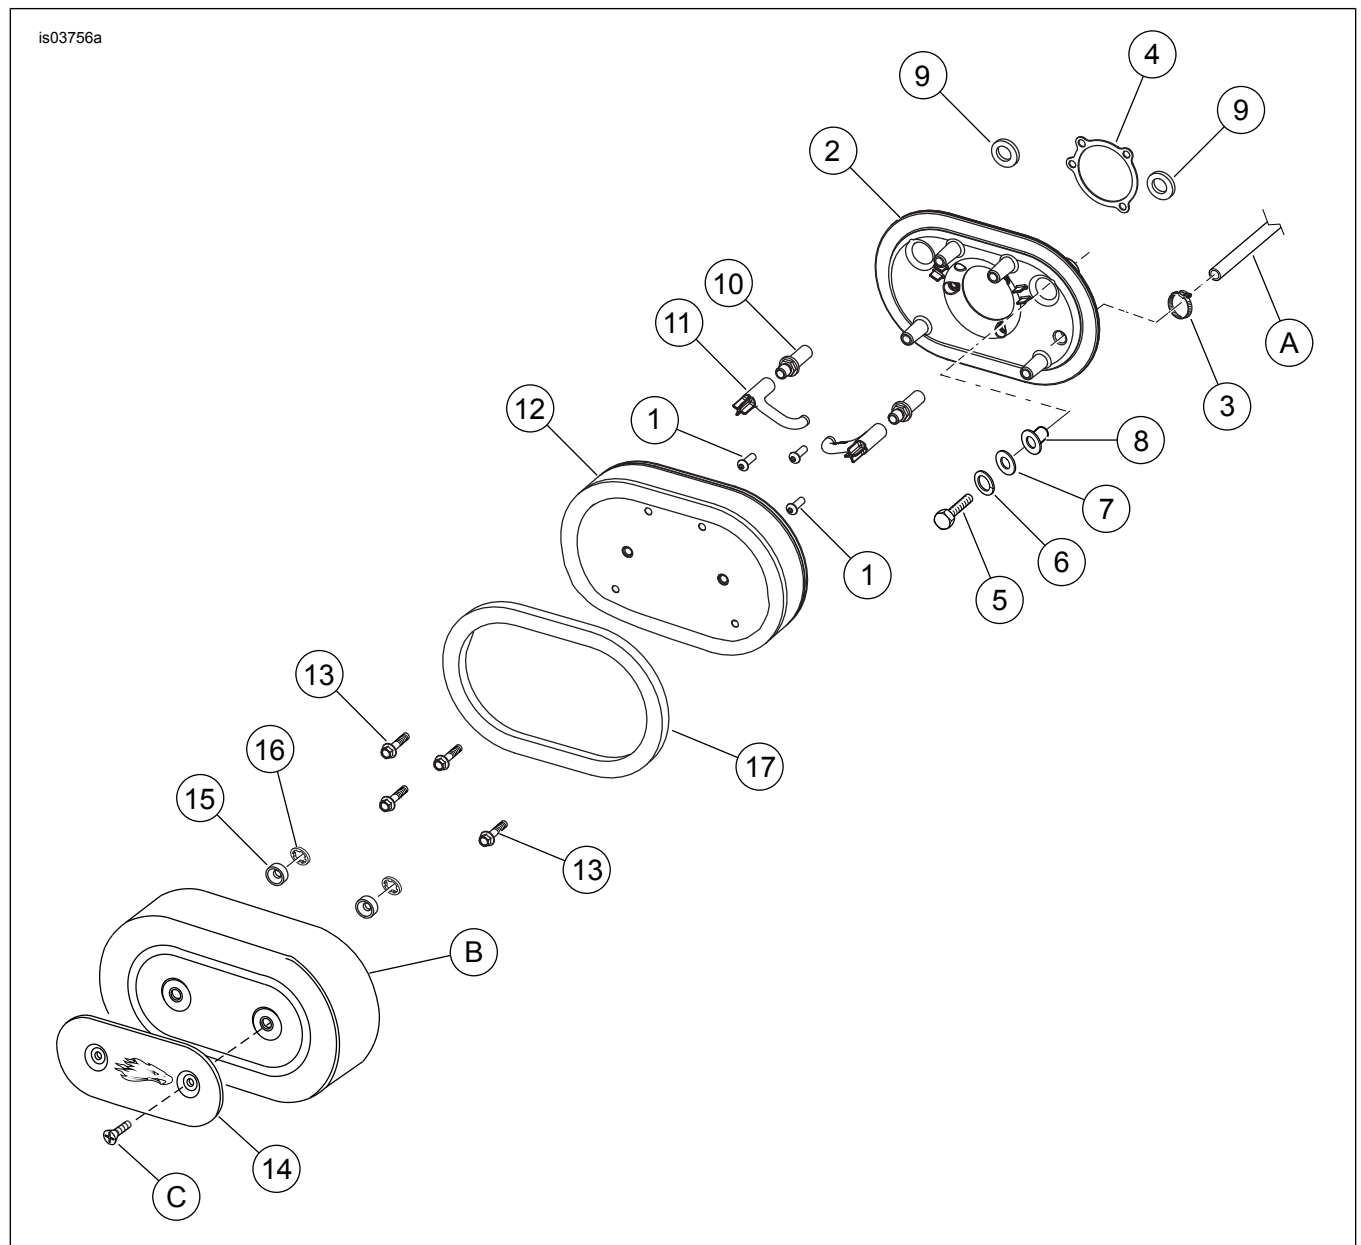

Figure 1. Service Parts: Screamin' Eagle Pro High Flow Air Cleaner Kit
See Figure 1 and Table 1.
1. See Figure 1. Install three screws (1) fully into backplate inserts.
2. **For 1988 - 1990 Models Only:** Drill out baseplate at hose connection. Install original breather hose (A) to backplate (2) with clamp (3).
3. Peel paper backing off gasket (4) and apply to "carburetor side" of backplate. Make sure gasket holes are lined up with backplate holes.
4. Install backplate (2) to carburetor.
- b. Carefully install three screws (1) with backplate (2) into carburetor.
- a. Insert two hex head screws (5), lockwashers (6), flat washers (7) and bushings (8) through backplate.
- b. Install flat washers (9) between backplate and cylinder heads.
1. See Figure 1. Remove air cleaner cover (B) and inspect the filter element (12) every 5000 MI (8000 KM), or more often under dusty conditions.